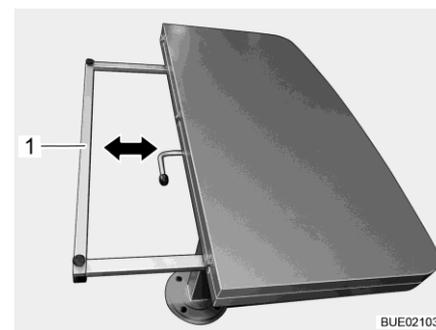

Fig. 134 Reducing the table top size
- Hold the supporting frame (Fig. 134,1) on both sides and push it underneath the table top as far as it will go.